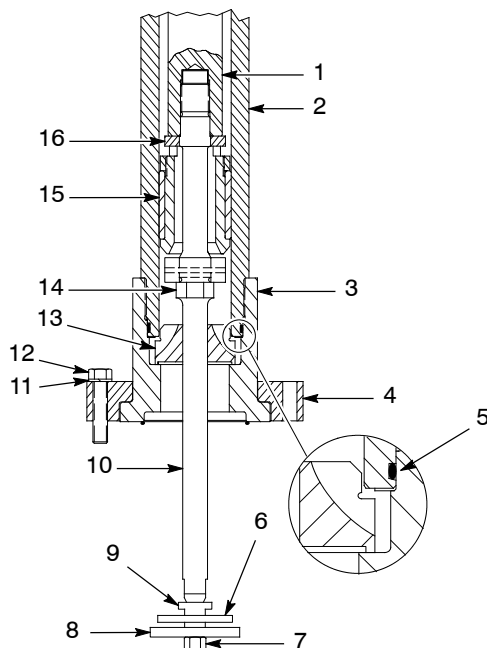

Figure 7 Plunger and Piston Replacement
1. See Figure 7. Unscrew the bottom pump cover (3) from the pump body (2).
2. Remove the self-locking nut (7) from the bottom of the shovel assembly. Discard the self-locking nut.
3. Unscrew the shovel (8) then remove the plate washer (6) and washer retainer (9) from the upper check rod (10).
5. Remove the O-ring (5) from the pump body. Slide the lower check (13) off the upper check rod.
1. See Figure 7. Install the piston (15) and spacer (16) on the upper check rod (10). Place removable threadlocking compound on the threads of the upper check rod and install it on the plunger (1). Tighten the check rod to approximately 108 N•m (80 ft-lb).
2. Install a new O-ring (5) on the pump body (2).
5. Install the lower check (13) on the upper check rod.
6. Slide the follower plate cover (4) over the bottom pump cover (3) and screw the bottom pump cover onto the pump body. Torque the bottom pump cover to 240–291 N•m (177–215 ft-lb).